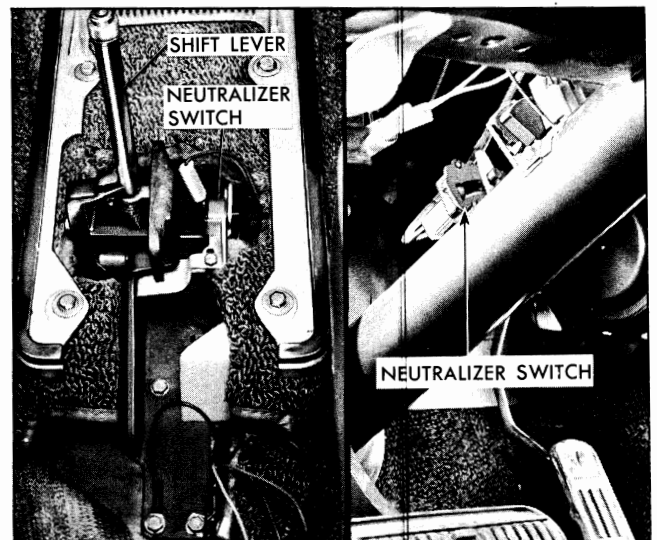

Fig. 7D-43 Neutralizer Switch
2. With engine idling at normal idle speed, check oil level indicator (Fig. 7D-38) and note reading (Fig. 7D-39). **NOTE:** When adding fluid use Automatic Transmission Fluid (Type A) from containers bearing Armour Institute qualification number "AQ-ATF".